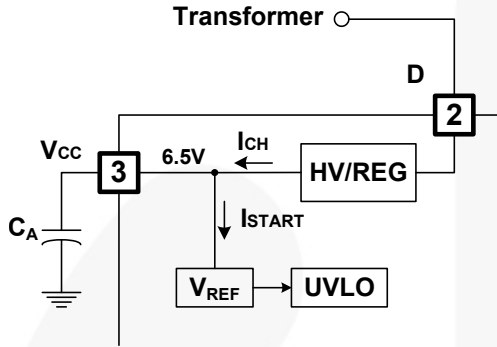
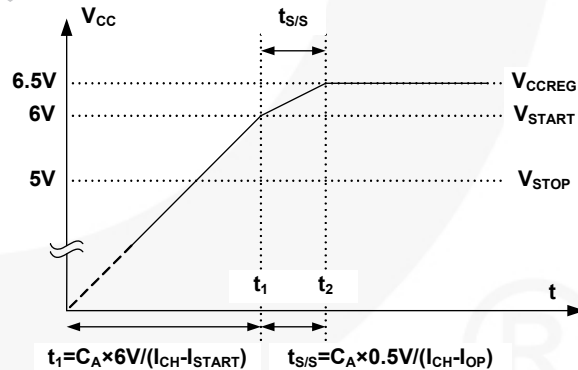

Figure 15. Startup Block
Figure 20. Soft-Start Function
**1. Startup and  $V_{CC}$  Regulation:** At startup, an internal high-voltage current source supplies the internal bias and charges the external capacitor ( $C_A$ ) connected to the  $V_{CC}$  pin, as illustrated in Figure 15. An internal high-voltage regulator (HV/REG) located between the D and  $V_{CC}$  pins regulates the  $V_{CC}$  to be 6.5V and supplies operating current. Therefore, FSQ500L needs no auxiliary bias winding.
**4. Soft-Start:** The soft-start time is tuned by an external  $V_{CC}$  capacitor ( $C_A$ ), which increases PWM comparator non-inverting input voltage together with the senseFET current slowly after it starts up. Before  $V_{CC}$  reaches  $V_{START}$ ,  $C_A$  is charged by the current  $I_{CH-I_{START}}$ , where  $I_{CH}$  and  $I_{START}$  are described in Figure 15. After  $V_{CC}$  reaches  $V_{START}$ , all internal blocks are activated, so that the current consuming inside IC becomes  $I_{CP}$ . Therefore,  $C_A$  is charged by the current  $I_{CH-I_{CP}}$ , which makes the increasing slope of  $V_{CC}$  become sluggish.  $V_{CC}$  is shifted by 6.0V negatively (it is performed in soft-start block in Figure 2), and then  $V_{CC} - 6.0V$  is an input of one of the input terminals of the PWM comparator. The drain current follows  $V_{CC} - 6.0V$  instead of the  $V_{FB}^*$  because of the low-dominant feature of the PWM comparator. The soft-start time can be made long or short by selecting  $C_A$ , as described in Figure 20. During  $t_{S/S}$ ,  $I_{DELAY}$  is disabled to avoid unwanted OLP. Typically,  $t_{S/S}$  is around 4.6ms with 27 $\mu$ F of  $C_A$ .